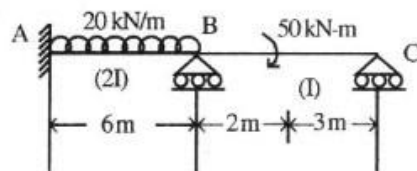

Figure 2
- d) Draw the BMD and SFD using theorem of three moments for the beam as shown in fig 2.